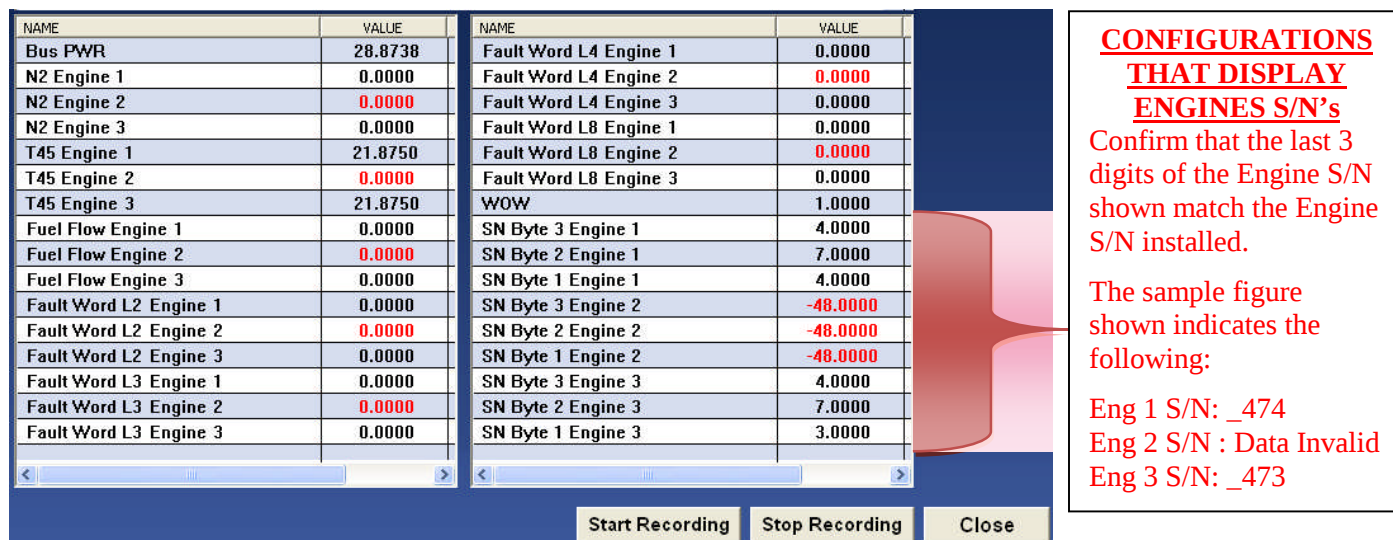

Figure 13: Live Data View (Dassault F7X / F8X shown)
- 4) Confirm that all sensors are valid (Invalid values are displayed in red). An example is shown in Figure 13. Sensors shown may vary by aircraft configuration.